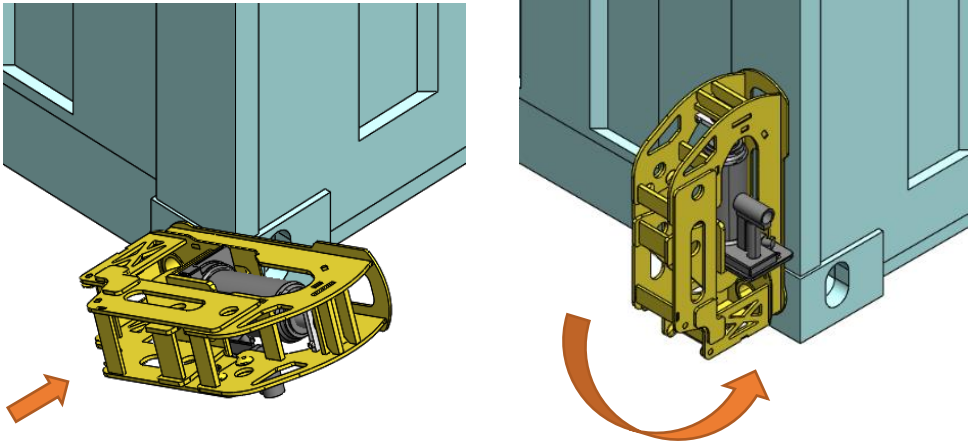

Figure 3 Mounting of climber unit.
2. Attach the climber unit to the corner casting by inserting it horizontally to the hole and then pivoting the unit to vertical (**Figure 3**)